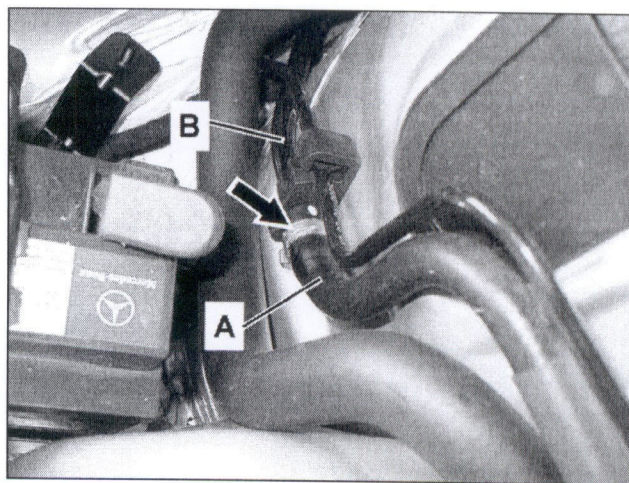

Figure 3
8. Remove suction hose (A, Figure 3):
- Remove and discard hose clamp (arrow) where suction hose is connected to suction line (B).
Do not use sharp-edged tools (e.g., screwdriver) to remove suction hose (A, Figure 3) from SBC suction line (B), this may cause damage to the suction line (B) and possible SBC brake system malfunctions.
- Carefully detach suction hose (A, Figure 3) from the suction line (B) using a plastic wedge (Example: Special Tool: W110 589 03 59 00).
- When removing suction hose (A, Figure 3), do not bend suction line.
- To prevent brake fluid from running out and to prevent contamination in the brake system, the suction hose (A, Figure 3) and line (B) are to be plugged using suitable plugs from the stop plug kit (Special Tool: W129 589 00 91 00).
- Discard old suction hose (A) and clamp (arrow) after removal.